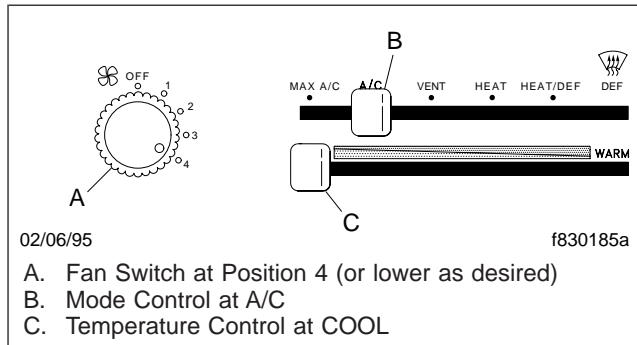

Fig. 4.8, Settings for Cooling with A/C
4. Move the mode control to A/C. See Fig. 4.8. With the control at A/C, fresh air is drawn into the cab. With the control at MAX A/C, the air inside the cab is recirculated.